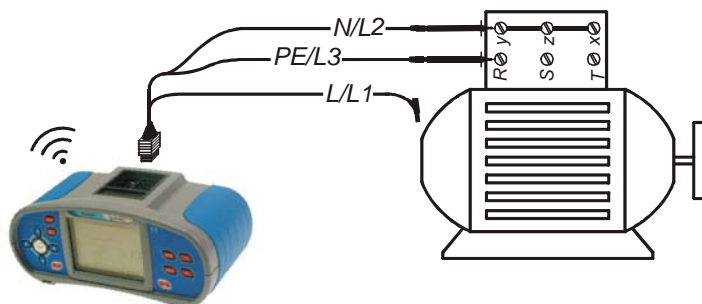

Figure 5.8: Universal test cable application
- ❑ **Connect** test leads to the tested object (see figure 5.8).